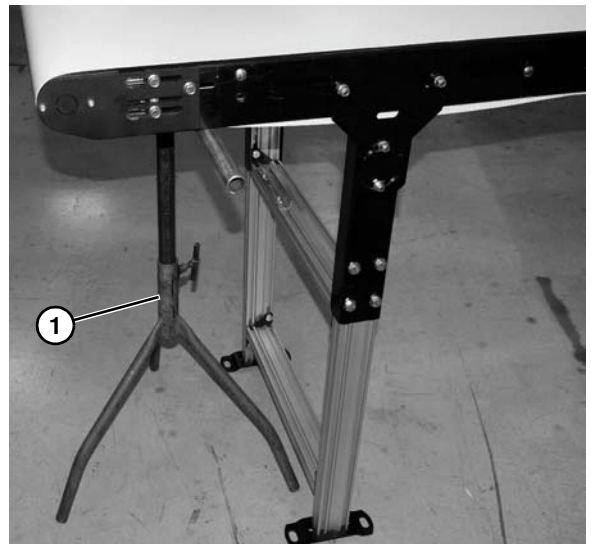

Figure 84
1. Ensure a temporary support stand (**Figure 84, item 1**) is placed at both ends of the conveyor.